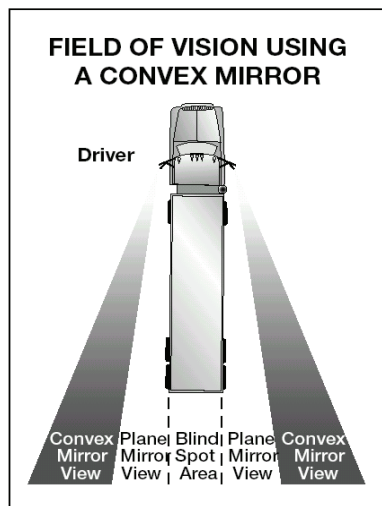

Figure 2.7
- ✓ Many large vehicles have curved (convex, "fisheye," "spot" or "bug eye") mirrors that show a wider area than flat mirrors. This is often helpful. But everything appears smaller in a convex mirror than it would if you were looking at it directly. Things also seem farther away than they really are. It's important to realize this and to allow for it. Figure 2.7 shows the field of vision using a convex mirror.